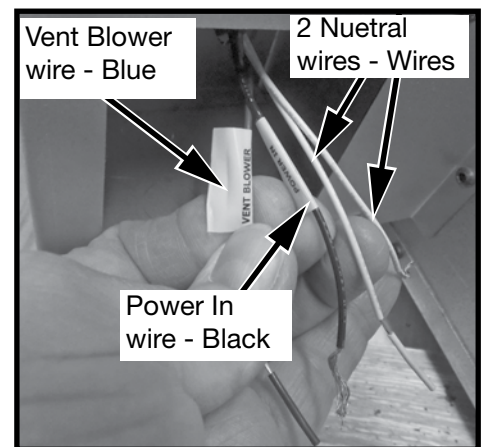
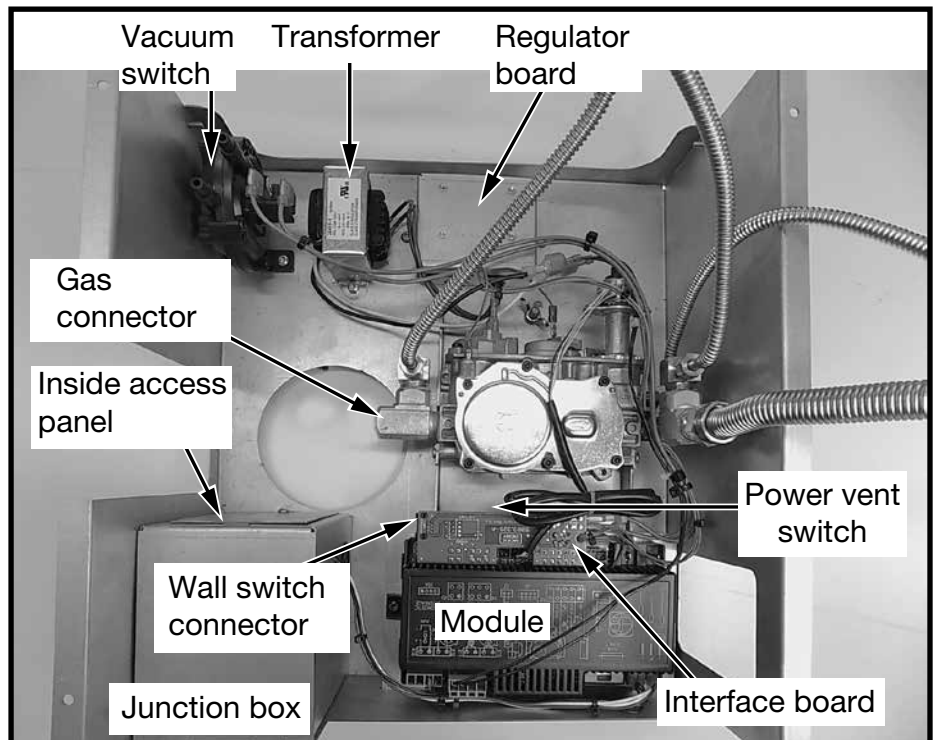
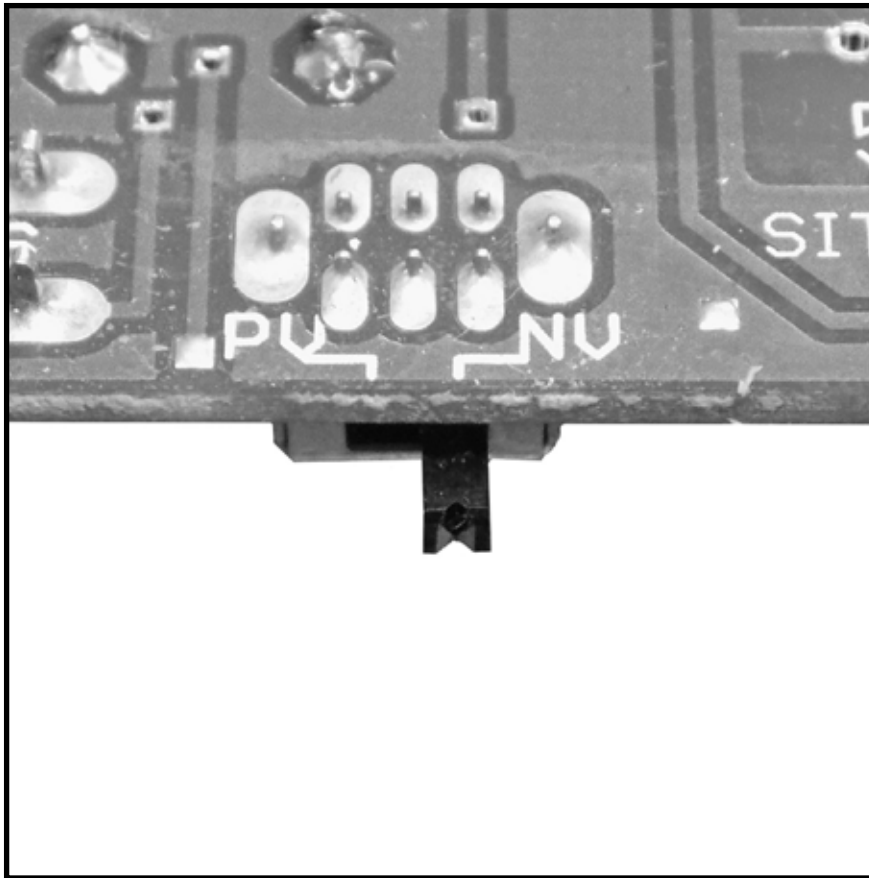

Figure 29: Junction box wiring.
Figure 30: Valve assembly components.
Figure 35: Vent mode selection switch.
4. Connect 110 V. AC electrical supply to the wires installed inside the junction box (Figure 29). The fireplace is rated at 110 volts, 60Hz, 0.25A. The optional power vent kit is rated at 115 volts, 60Hz, 1.8A.
The electrical wires can be accessed from both inside and outside the junction box by removing one of the two small access panels (Figure 29) or (Figure 30).
7. Attach one end of the wall switch control cable to the wall control. (Figure 33), and the other end to the interface board (Figure 30).
The PV / NV (Power Vent / Natural Vent) switch (Figure 35) on the interface board (Figure 30) is set according to which type of evacuating vent system is present. If the fireplace is vented without the assistance of a power vent, the switch should be set to “NV”. If using a power vent, “PV” should be selected. Follow the instructions provided with the power vent kit for proper installation.